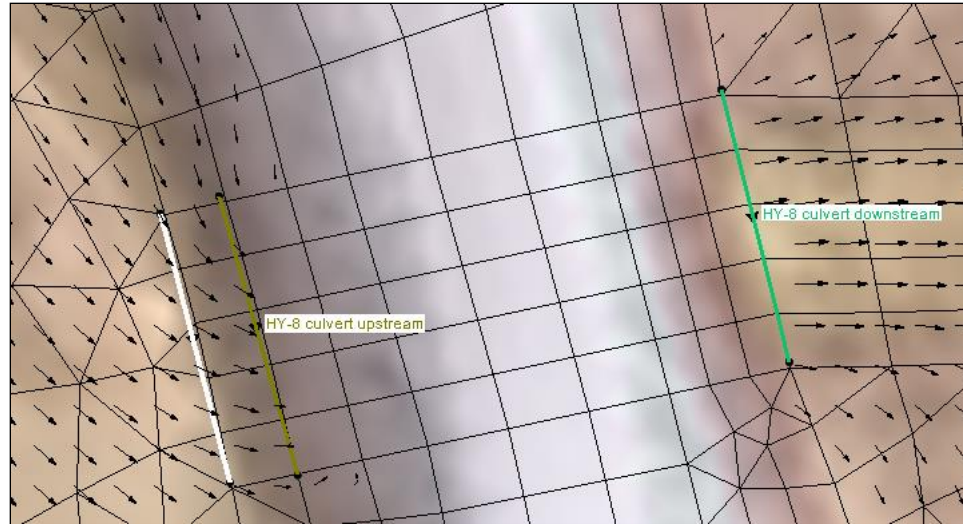

Figure 7 Upstream and Downstream BC Culvert Arcs
2. Use the **Create Feature Arc**  tool to create an additional arc upstream (to the left) of the culvert in the location show in Figure 7.